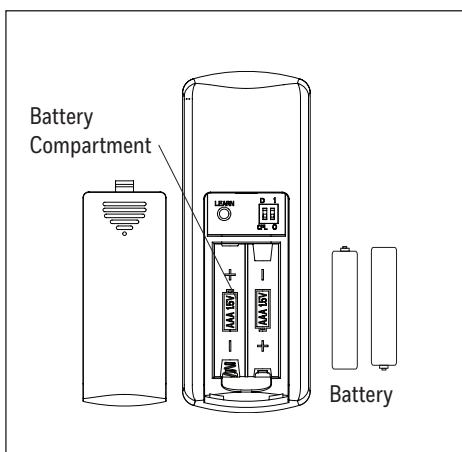

Figure 5.1
1. Use a flat-head screwdriver, if necessary, to remove the battery cover from the back of the remote found in remote pack. Insert the battery into the remote; ensure polarity of battery matches the polarity indicated in the battery compartment -- positive (+) to positive (+) and negative (-) to negative (-). Replace the back cover and press the fan on/off button on the remote to ensure the LED indicator illuminates and the remote turns on the fan (Figure 5.1).
Remote does not work.	1. Power surge may have cleared the memory and remote needs to be resynced to the receiver. Syncing instructions: Turn off the power at the breaker box for at least 10 seconds and then turn the power back on. Within 30 seconds, press and hold the "LEARN" button (Figure 5.1) on the back of the remote for 3 seconds. The fan will turn on at high speed and light will blink twice and stay on, signaling a successful synchronization. 2. Insert new AAA batteries in battery compartment of the wall control. 3. If there are several remote fans in proximity, turn the power off to those fans and re-sync the fan.